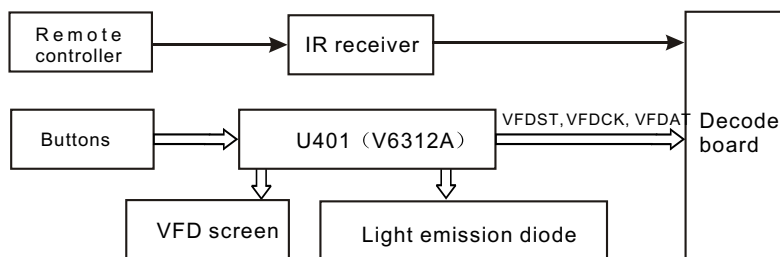

Figure 3.2.16.1 Panel control circuit block diagram
1. Panel control circuit block diagram is shown in the figure 3.2.16.1: